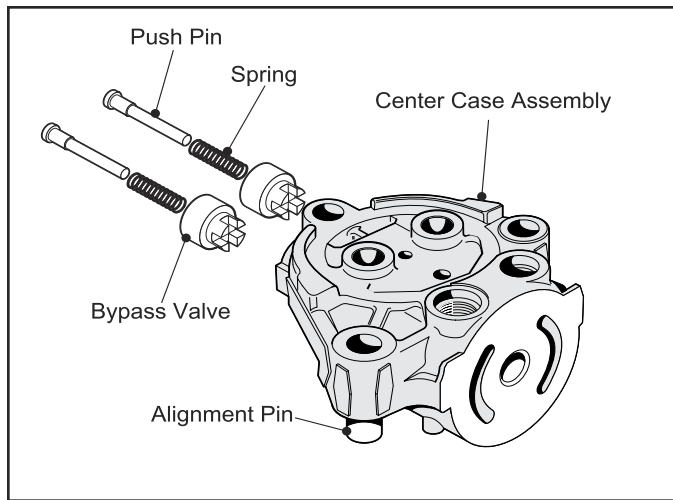

Fig. 9, Push Pin and Bypass Valve Removal
1. Remove (2) Push Pins, Springs, and Bypass Valve from the Center Case. (Fig. 9)